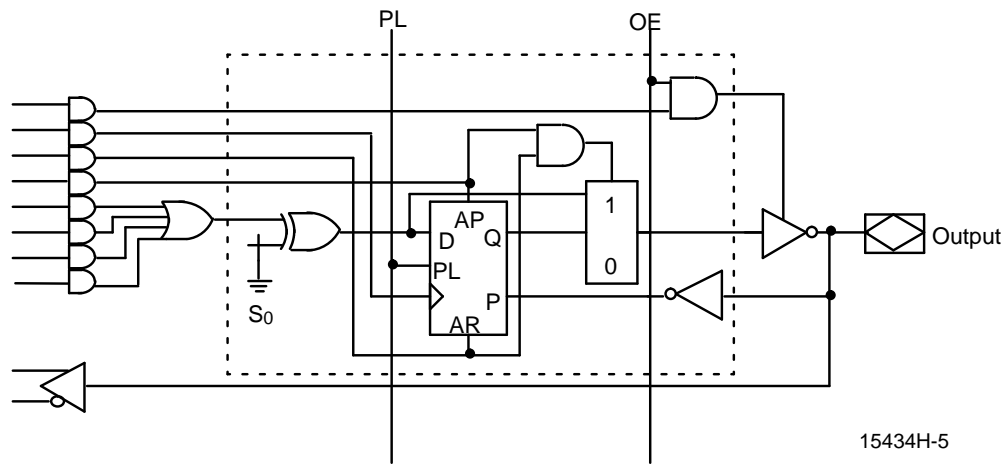

Figure 1. PALCE20RA10 Macrocell
The PALCE20RA10 has ten dedicated input lines and ten programmable I/O macrocells. The Registered Asynchronous (RA) macrocell is shown in Figure 1. \overline{PL} serves as global register preload and \overline{OE} serves as global output enable. Programmable output polarity is available to provide user-programmable output polarity for each individual macrocell.